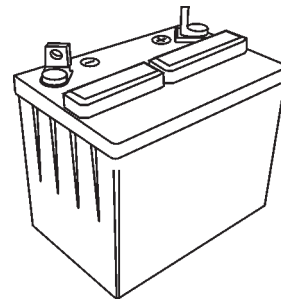

Figure 10. Battery
DO NOT over fill the fluid reservoir (Figure 10). Note the level marks on the reservoir. **It is essential to reference the existing oil conditions (A) cold or (B) hot prior to operating the saw.** Overfilling the transmission with hydraulic fluid may cause the seals to **rupture** causing mechanical damage.
Battery - The 12-volt DC battery (Figure 10) is shipped **dry**, and will require a proper electrolyte level for operation.